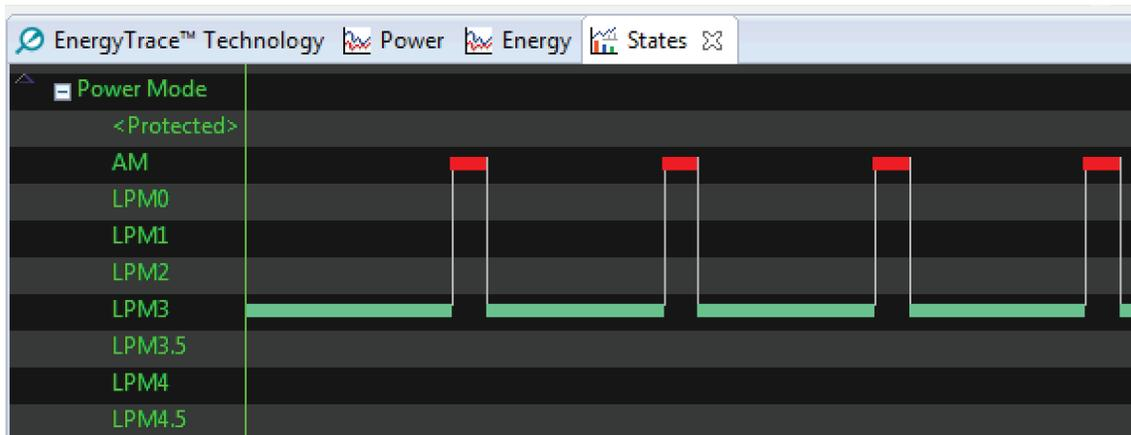

Figure 22. MostEfficient.c States
6. Go to the *States* window. Notice that LPM3 is now correctly implemented (see Figure 22). Also, SMCLK and MODOSC no longer run.